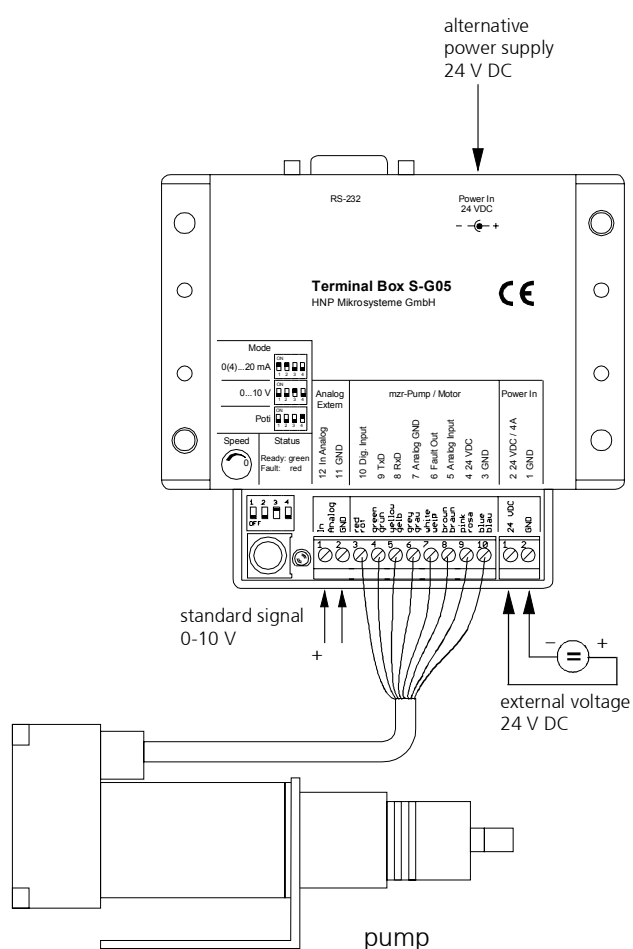

figure 24
4. Connect an external 0-10 V voltage supply to the terminal clamps »AnalogIn« and »GND« to the S-G05.(see figure 24)
4. Connect an external 0-10 V voltage signal to the terminal clamps »AnalogIn« and »GND« on the connection board (see figure 24).